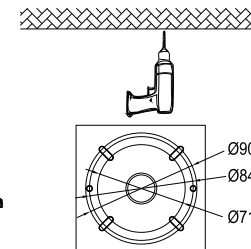

FIGURE 2-3
3. Drill the holes on the ceiling accordingly to fit the plate (Figure 2-3)